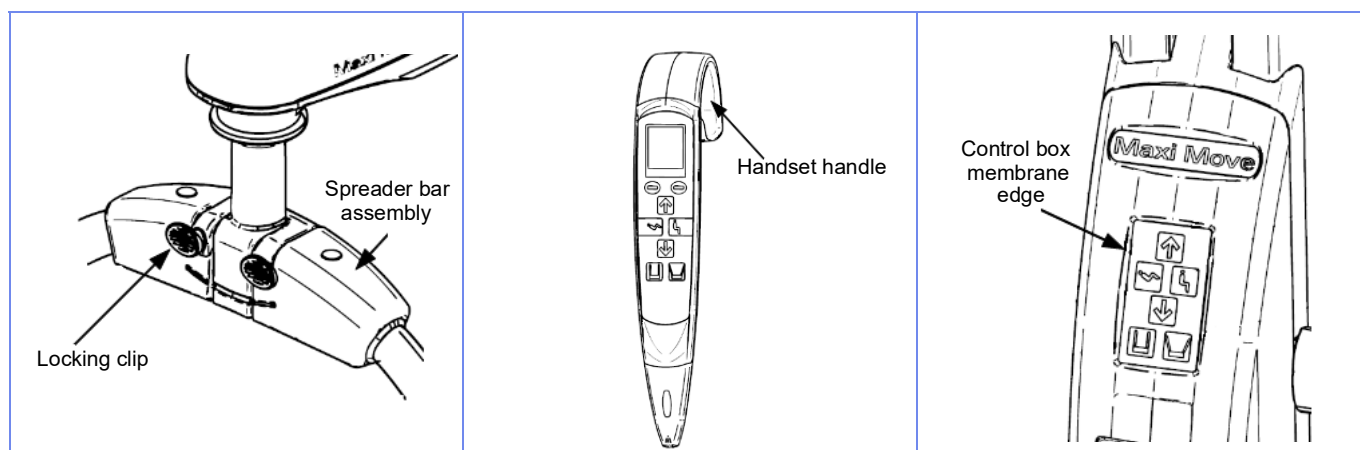

Fig. 77
**NOTE:** Pay special attention to areas identified below (see Fig. 77). These are the most likely to enclose germs. Use a smaller brush and/or cotton swab to reach them.